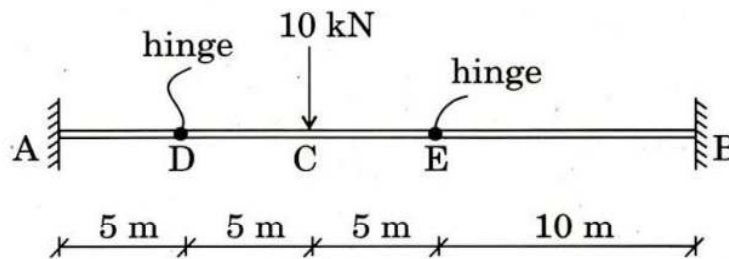

Figure 4
- Q2. (a) Find the deflection at C for the beam as shown in Figure 4. $EI = \text{constant}$. Use conjugate beam method.